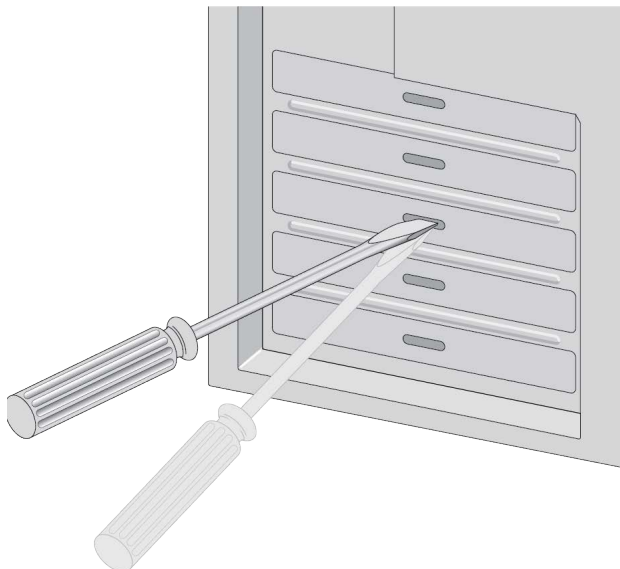

Figure 13. Removing the Faceplate From PCIe Slot
4. Remove the faceplate that is directly in line with the PCIe slot you selected. See Figure 13.